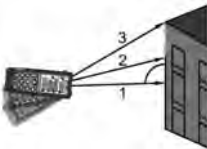

Fig. 11: Indirect 3-point measurement – Mode 2
3. Position the instrument in the lowest point (1) of measurement (see Fig. 11 ) and press the  key or the side **MEAS** key. The result appears on the first partial display. The symbol “” appears on the display with side “2” flashing
4. Position the instrument as horizontally as possible (2) (see Fig. 11) and press the  key or the side **MEAS** key to measure. The result appears on the second partial display. The symbol “” appears on the display with side “3” flashing
5. Position the instrument in the highest point (3) of measurement (see Fig. 11) and press the  key or the side **MEAS** key to measure. The result appears on the second partial display
6. The final value of the result obtained with the combination of previous measures (see dashed line in Fig. 11) is shown on the resulting display